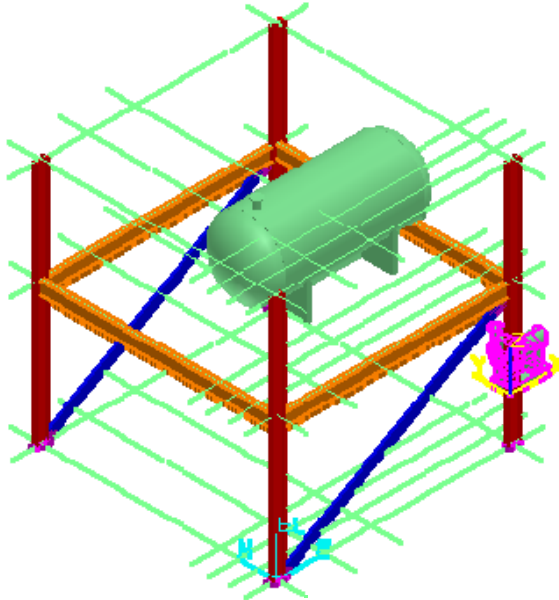

Figure 22: The Selected Equipment
1. Click to select the equipment **41P-101A**, to which a new positioning relationship is to be added as shown in Figure 22.